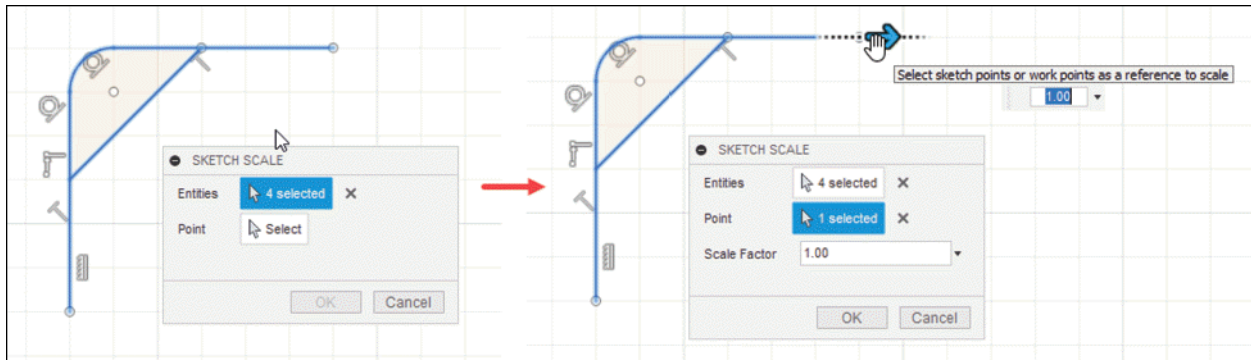

Figure-86. Procedure of sketch scale
- Click on **Select** button of **Point** section and select the reference point about which selected entities will be scaled up/down. The updated **SKETCH SCALE** dialog box will be displayed; refer to Figure-86. Make sure the point to be selected as reference has not been selected during entities